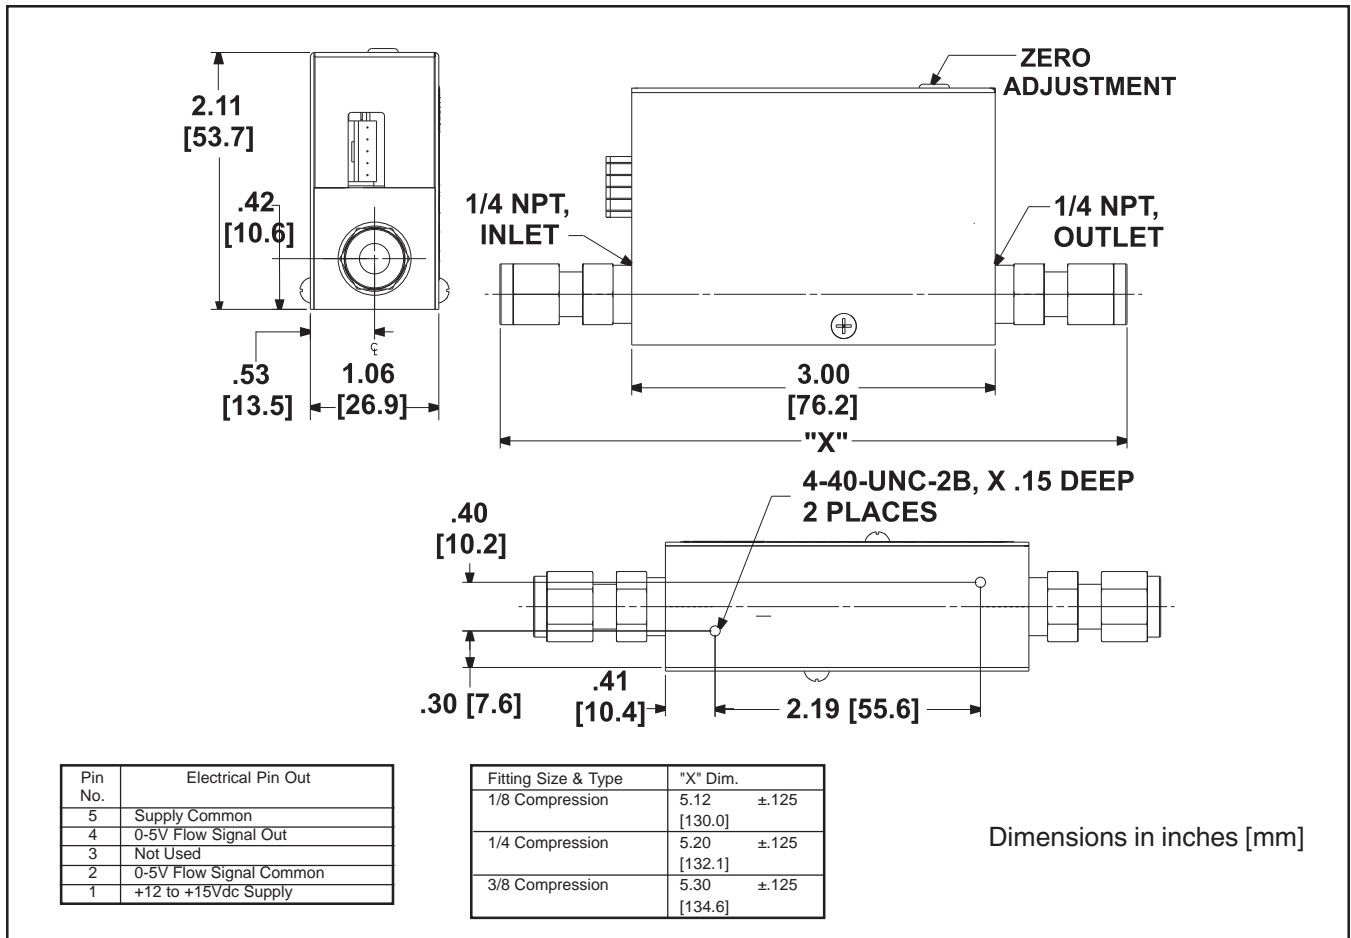

Figure 2-1 Model MassRate Dimensions/Electrical Connector
**2-7 Installation Tips (Refer to Figure 2-1)****⚠ CAUTION**
To insure proper operation, the MassRate 5700 must be connected per Figure 2-1. A positive 12 to 15 Vdc power source must be connected to pin 1 and common to pin 5. Under normal operating conditions this meter will draw less than 50 mA. The flow output is a linear 0-5 Vdc signal on pins 2 and 4.
Each MassRate 5700 is factory adjusted to provide a  $0 \pm 10$  mVdc signal at zero flow. If readjustment is necessary refer to Figure 2-1 for zero potentiometer location and follow instructions a through f listed below.